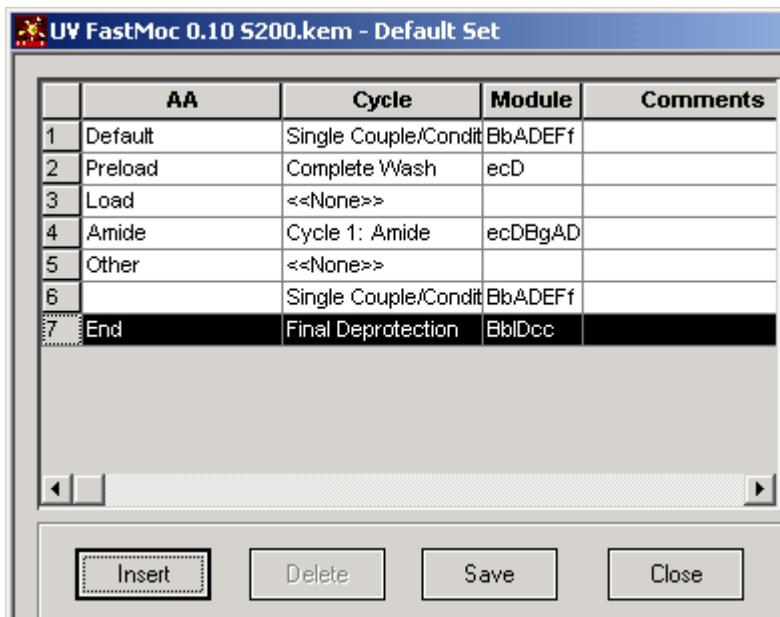

Figure 7-25 Displaying an Amino Acid List
2. Click the empty AA field to display the amino acid list (Figure 7-25).